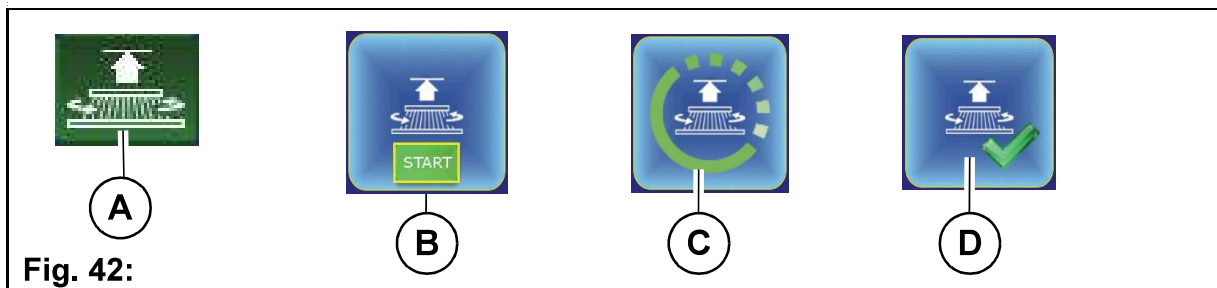

Fig. 42:
5. Select soft key *Insert brushes* **Fig. 42-A** with the turn-push knob and confirm. The action window **Fig. 42-B** opens. Confirm the start with the turn-push knob.
The procedure starts and symbols **Fig. 42-C, D** appear on the MFD one after the other. Only now is the procedure complete.